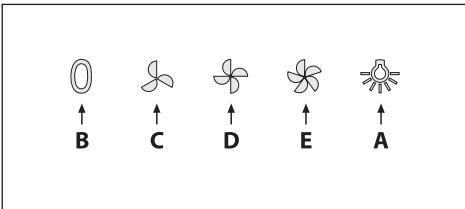

Fig.8
**• Mechanical control (Fig.8)** the key symbols are explained below: